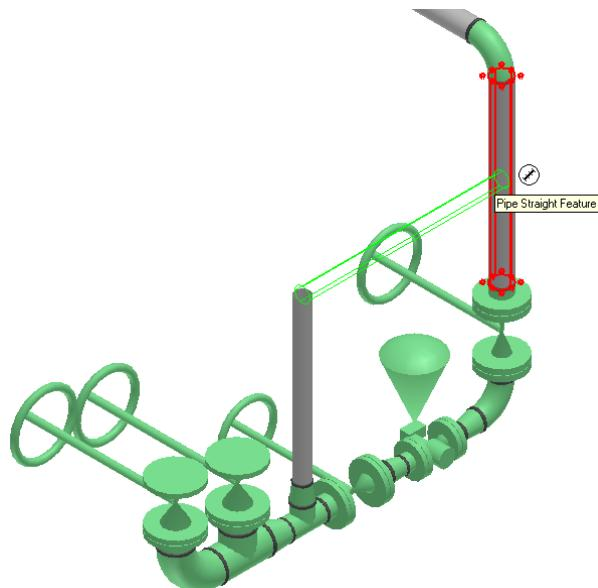

Figure 3.100: Routing the Pipe
58. Make a 90-degree turn and route into the vertical straight feature to create a by pass line, as shown in Figure 3.100.